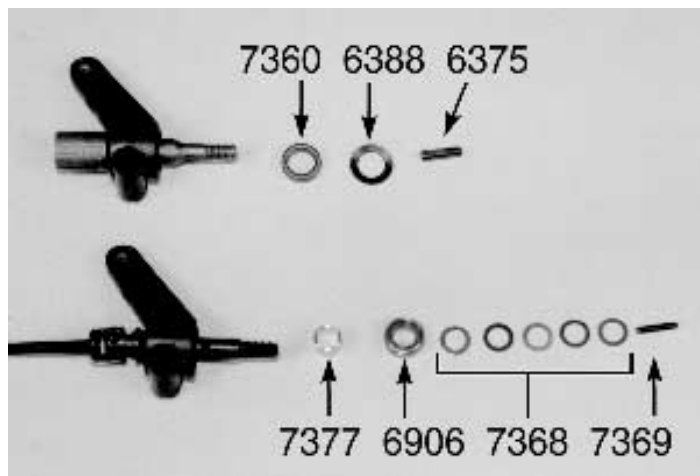

Fig. 101
If you have a bushing T2 you will need to remove two #6374 rear stub axles, two #6375 3/32" roll pins, two #6388 axle cone washers, and the small bag containing the four #7360 1/4" x 3/8" unflanged bushings. See top of fig. 101.
BALL BEARING KIT: (1) Slide one of the #7368 rear axle shims onto the axle, (2) followed by one of the #6906 ball bearings, (3) and this will be followed by one of the #7377 bearing spacers. (4) From the back side install the assembled #7367 universal axle into the #7365 rear hub carrier. Use the axle to seat the bearing into the back side of the rear hub carrier. (5) Now install a second #6906 bearing over the axle into the front side of the hub carrier (bottom of fig. 101). Be careful to seat it correctly without damaging the bearing race dust shield. (6) Take five of the #7368 shims and slide them onto the axle up against the outer bearing. (7) Use your needlenose pliers to install the #7369 1/16" rear axle spring pin (see fig. 102). Make sure that you center the spring pin to the best of your ability. This will prevent any problems when installing the rear wheel later in the manual. (8) Go ahead and repeat the above steps for the second axle. They both go together the same way.